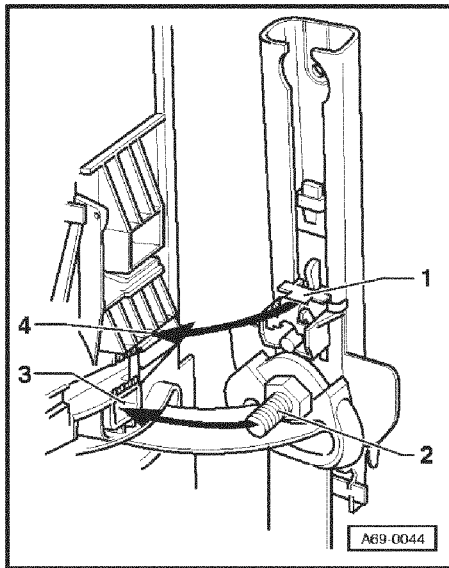

Fig.1 Installing upper B-pillar trim in belt height adjuster
- Insert height adjustment switch in height adjuster -5- => Fig. 1